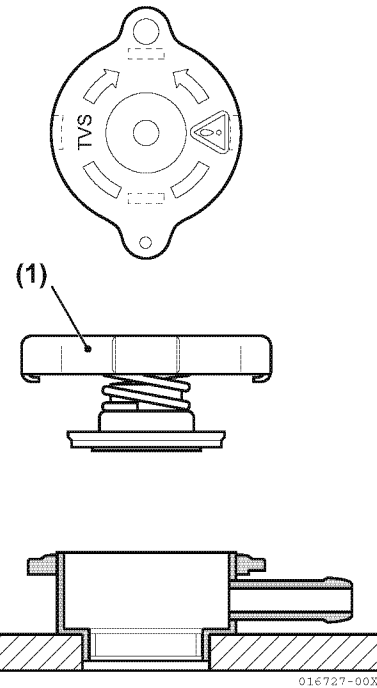

Figure 7-17
- Inspect the cap gasket and flange on the filler neck for damage (Figure 7-17, (1)).